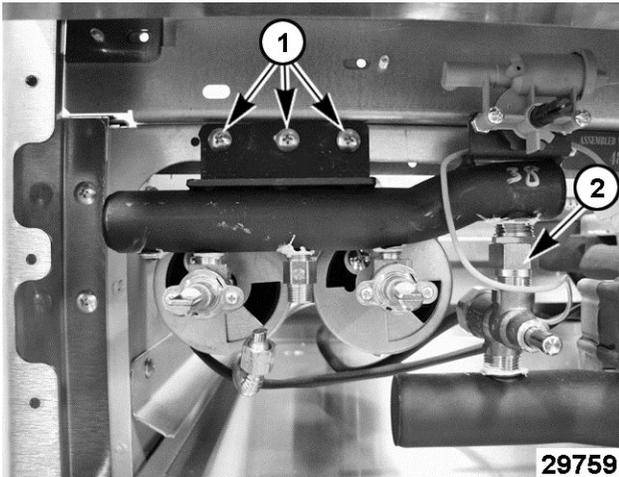

Fig. 65
- Remove gas manifold from frame (1, Fig. 65).
- Disconnect safety valve compression nut (2, Fig. 65) from tube adapter on gas manifold then remove safety valve from gas manifold.